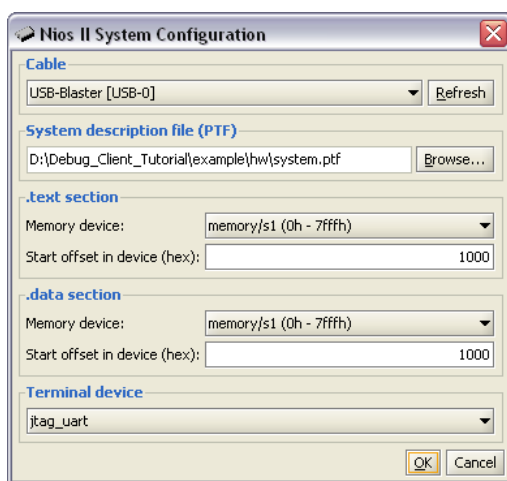

Figure 10. Nios II System Configuration window configured for the example system.
- Your system configuration should appear as shown in Figure 10. Click **OK** to save the system configuration.